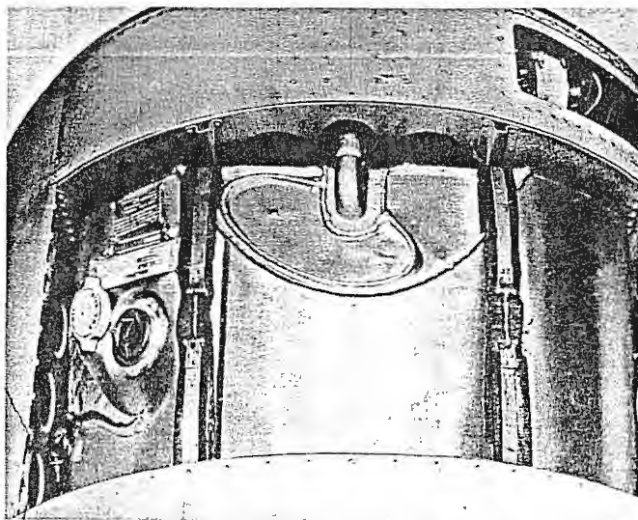

Figure 5-30. Oil Tank Installation
3-99. DESCRIPTION. An oil supply tank (figure 5-30) is located aft of the firewall in each engine nacelle. The oil flows from the supply tank to the engine oil pump on the accessory section and then through the engine under pressure. The return oil picked up from the sump by the scavenging section of the oil pump flows to the oil by-pass valve and the oil radiator and then to the supply tank. For quick
- a. Lower tank into well (figure 5-30).